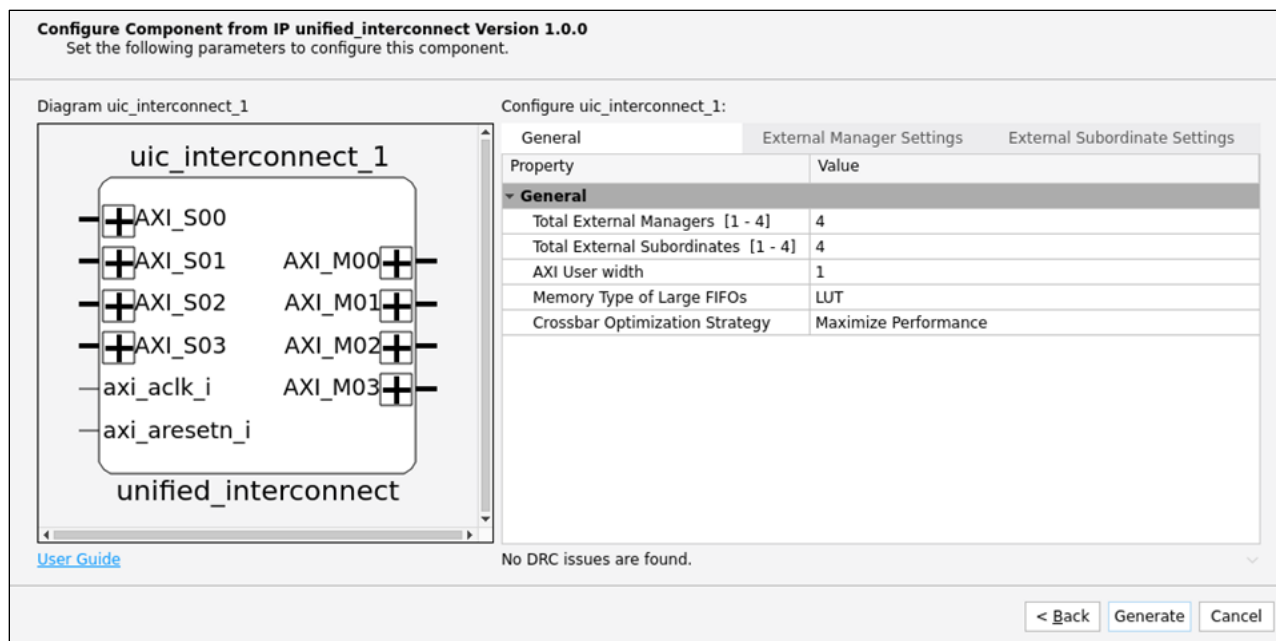

Figure 5.2. IP Configuration
5. Customize the selected Unified Interconnect IP using drop-down lists and check boxes. Figure 5.2 shows an example configuration of the Unified Interconnect IP. For details on the configuration options, refer to the IP Parameter Description section.